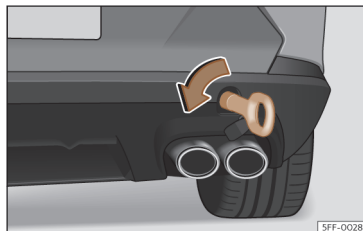

Fig. 212 Right side of the rear bumper: towline anchorage screwed in.
- Screw the towing eye in the housing by turning it to the maximum **anticlockwise** >>> Fig. 212 , >>> ⓘ . Use a suitable object that can completely and securely tighten the towing eye in its housing.